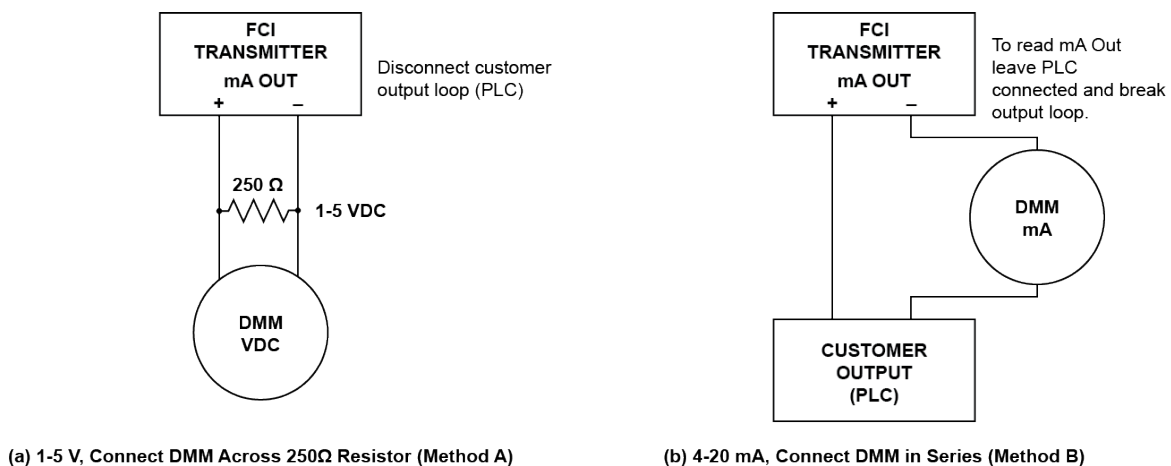

Figure 56 – DMM Hookup to Measure 4-20 mA Output
4. Connect a DMM to the transmitter 4-20 mA output by either method A or B as shown in Figure 56 below.
- a. To read 1 to 5 volts, disconnect both output loop wires and connect a precision 250 Ω resistor across the output terminal. Then connect the DMM, set to DC volts (V), across the resistor to read its voltage drop.